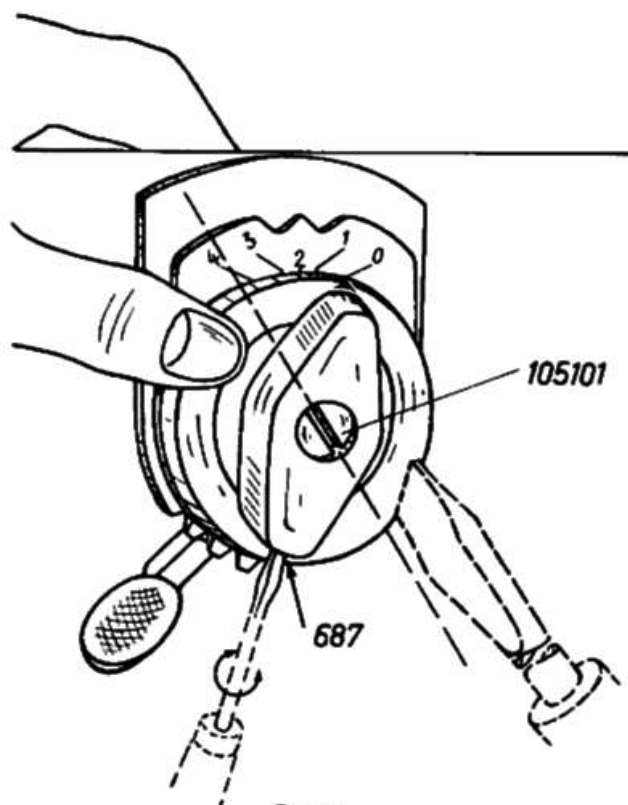

Fig. 25
The needle is correctly zeroed if it stitches twice into the same hole when turning the balance wheel forward, then backward. (Let it stitch into the cardboard just lightly!) If there is a discrepancy, loosen set screw (687) of the zigzag button, which can be reached from below. Hold the button on zero and press it against the arm. Then take a large screw driver and slightly turn regulator spindle (105101) to the right or left until any sideways motion of the needle bar has ceased (Fig. 25) Move the cardboard under the presser foot after every check so that needle punctures may be clearly distinguished.